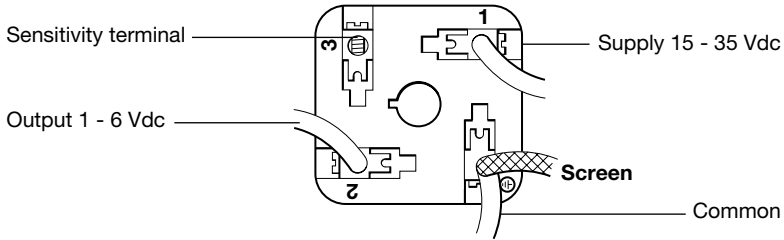

Fig. 6 Top view of connector block removed from its housing (Medium sensitivity).
3. **If it is more than 6 volts**, select the next lowest sensitivity range by changing terminal 3 wiring as shown in Figures. 6, 7 and 8.